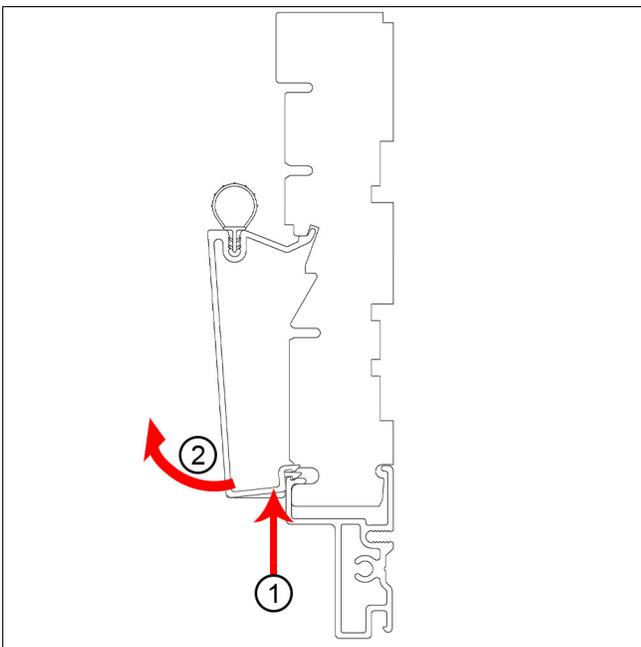

Figure 15 Exterior clad parting stop
8. Remove any exterior side jamb parting stops. Starting at the top of the stop, use a hammer and wood block to disengage the stop from the jamb snap feature. Push the parting stop in and rotate it out. See Figure 15.